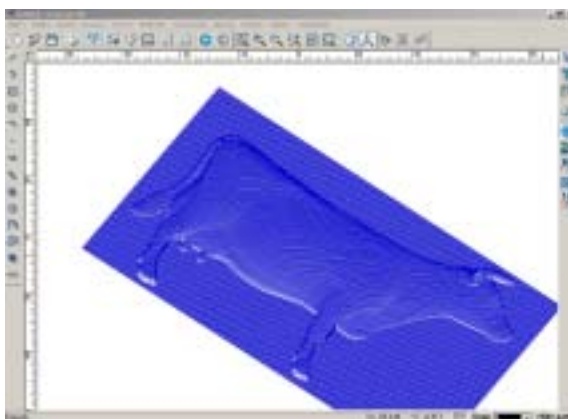

Fig. 10-61
3. Select a conical tool with a diameter of 0.2, blade height of 10, blade angle of 10, min brightness depth of 2, max brightness depth of 0.3, overlap of 50%, and choose horizontal machining. Then the 3D view of the effect is shown in Fig. 10-61.